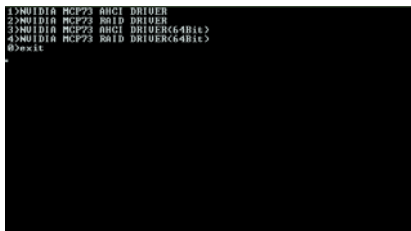
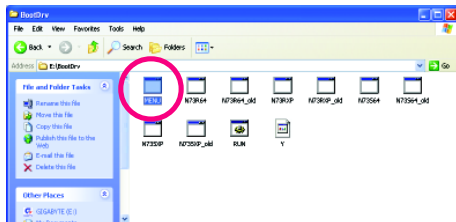

Figure 2
Figure 3
Step 2: When the controller menu (Figure 2) appears (Note 3) , remove the startup disk and insert the blank formatted disk. Select the controller driver by pressing the corresponding letter from the menu. For example, in the menu in Figure 2, to install Windows XP (32-bit) onto your RAID drives, press <2> to select 2)NVIDIA MCP73 RAID DRIVER. Your system will then automatically zip and transfer this driver file to the floppy disk. Press <0> to exit when finished.
Use an alternative system and insert the motherboard driver disk. From your optical drive folder, double click **IMENU**. exe file in the **BootDrv** folder (Figure 3).A command prompt window will open similar to that in Figure 2.